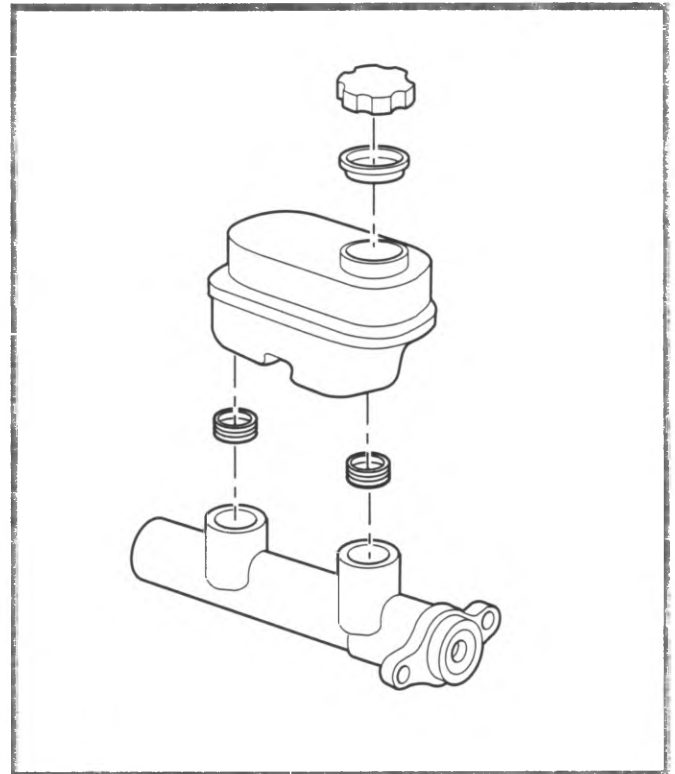

Figure 4-8, Master Cylinder
1. Remove the cover (figure 4-8).